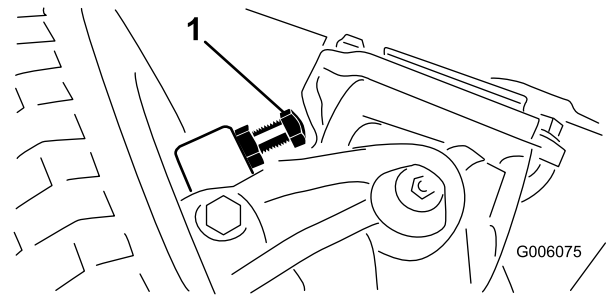

Figure 60
1. Thread the bolts in or out until you attain a clearance of 0.23 cm (0.090 inch) (Figure 60).